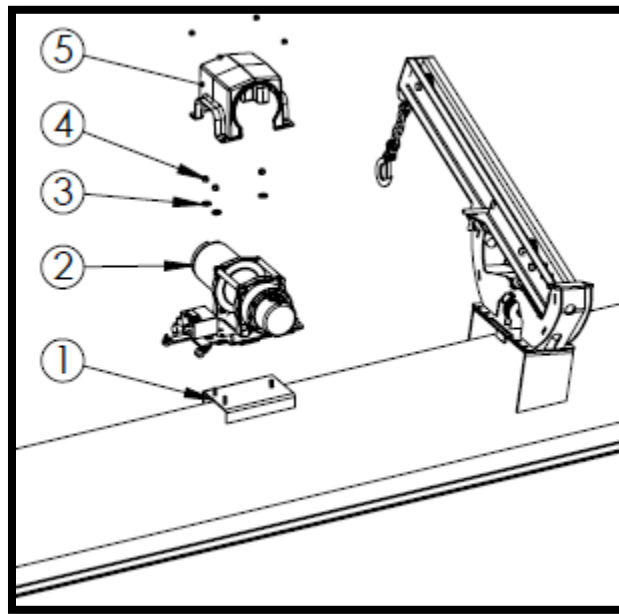

Figure 3: Installing the Electric Winch (MKX213, X213, HX213)
- Remove winch guard before installing winch onto mounting plate. Ensure that the winch cable (not shown) feeds through the three lift arm pulleys (at the top of the lift arm and at the lift arm base) as shown in Figure 3.